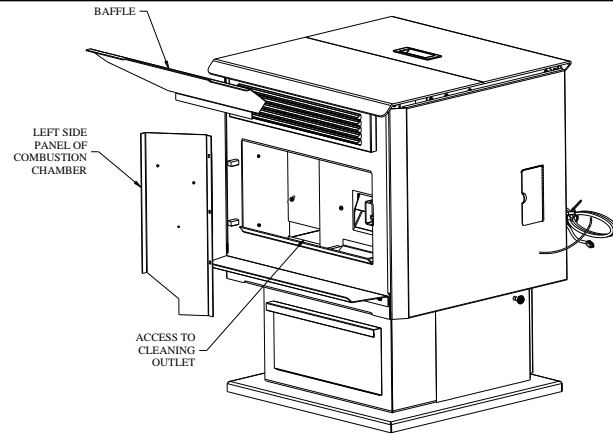

FIGURE 22
- c. **Chamber walls:** Periodically, you must vacuum the ashes that may have accumulated on the main walls of the combustion chamber. START BY REMOVING THE DECORATIVE MASONRY-LIKE PANELS, WHICH ARE SIMPLY HELD BY SCREWS. Scrape off ashes. Use a vacuum if necessary. There is also a cleaning outlet located behind the left side panel of the combustion chamber. Remove this panel using a screw driver. You will notice a small rectangular cleaning outlet. Inspect behind this outlet (see figure 22) Insert the vacuum tip through the cleaning outlet and clean thoroughly. REPEAT THIS OPERATION AT LEAST ONCE PER TON OF PELLETS BURNED UNTIL YOU ARE FAMILIAR WITH HOW ASHES ACCUMULATE WITH YOUR OPERATING PRACTICES.